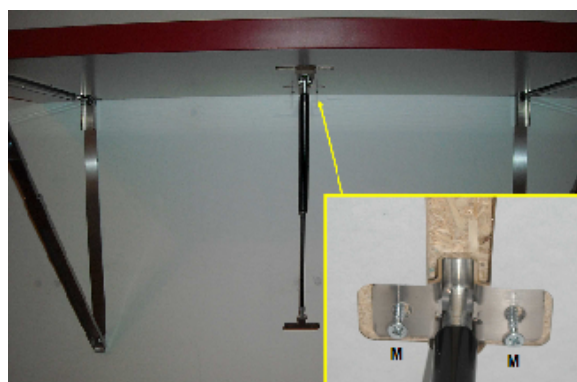

Fig. 1
1. Fix the shock absorber to the table top by fastening the table mounting plate to the tabletop with the two table mounting plate (wood) screws M (Fig. 1).